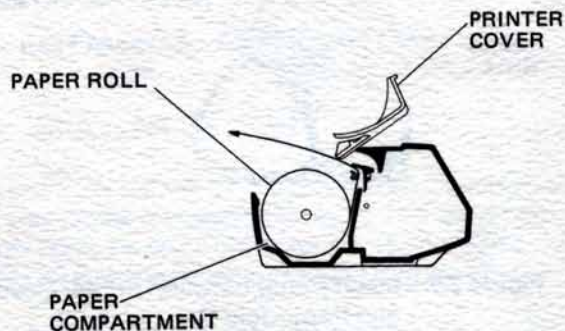

Figure 2-6 Install Paper Roll in Paper Compartment
6. Take the paper roll from behind the printer and roll up any excess paper, moving the roll into the paper compartment. Insert the roll as shown in Figure 2-6. The roll should turn freely.